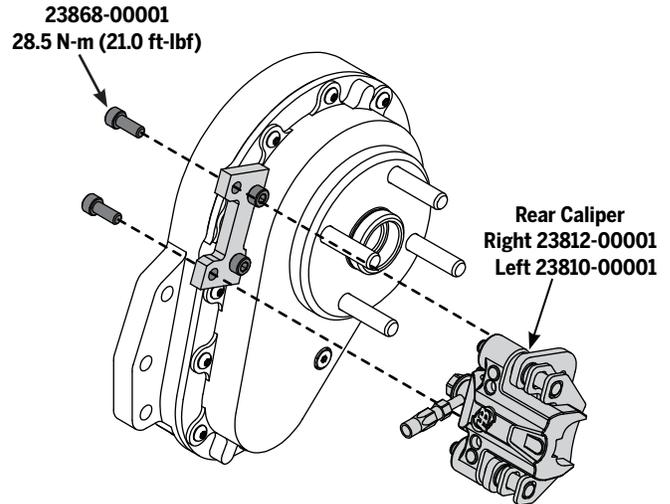

Figure 96: Rear Caliper
5. Using a 6 mm hex wrench, remove the two caliper fasteners. See Figure 96.
6. Using a 6 mm hex wrench, install the two caliper fasteners. See **Figure 96**. Torque to **28.5 N-m (21.0 ft-lbf)**.